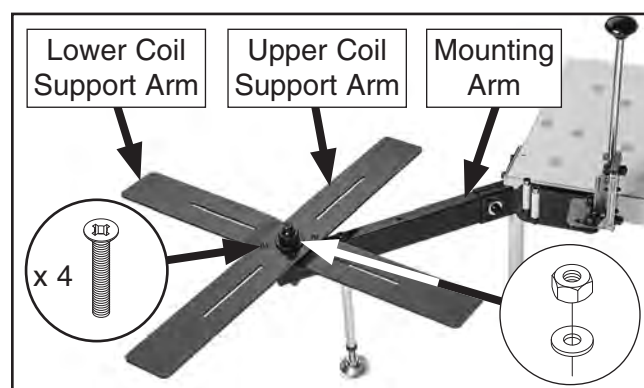

Figure 9. Coil support arms attached.
4. Place lower coil support arm over shaft on mounting arm, then place upper coil support arm over shaft, as shown in **Figure 9**. Secure with (1) 20mm flat washer, (1) M20-2.5 hex nut, and (4) M5-.8 x 10 flat head screws.